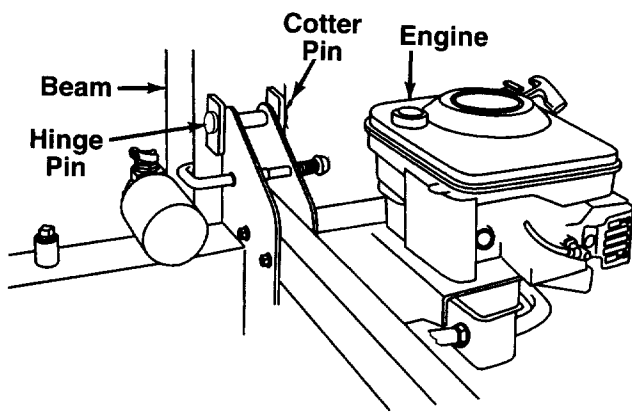

FIGURE 6.
3. Remove the cotter pin and the hinge pin, located beneath the beam assembly. Move the reservoir tank assembly in position against the beam. See figure 6. Line up holes by lifting hitch end of assembly.